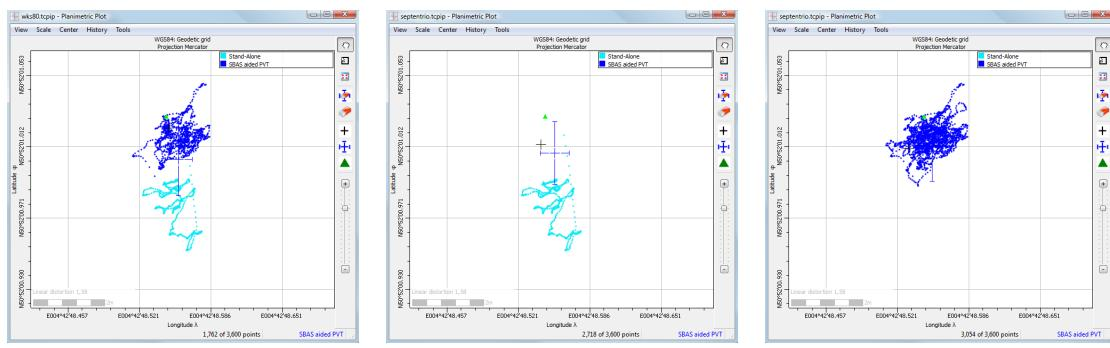

Figure 2-26: Selective display of PVT modes
- The dynamic **Select PVT Modes** sub menu allows to select which PVT modes are to be displayed (See Figure 2-26). The sub menu always contains the buttons **All** and **Current** displaying respectively all PVT modes or just the current PVT mode. The user further has the possibility to select a specific PVT mode allowing a closer inspection of the data calculated by the receiver.